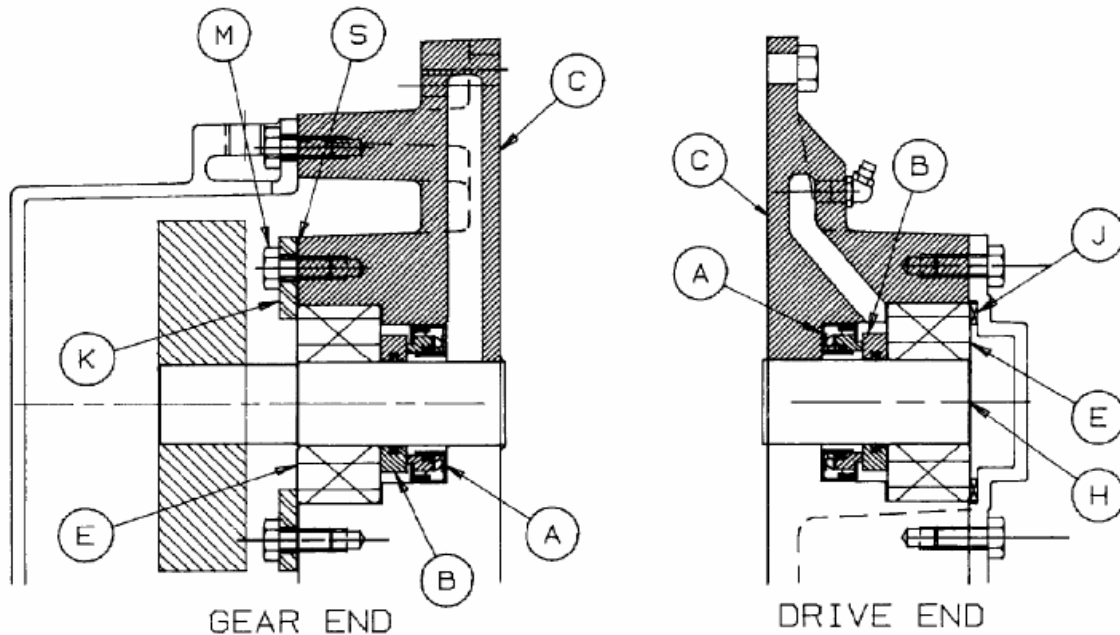

FIGURE 7-1
- B. Refer to Figure 7-1. Install mechanical seal (A) into the headplate bore (C) using a press and the correct driver shown on page 24. Drive the seal securely on to its seat.
- A. Refer to Figure 7-1, page 28. Lightly coat the impeller shaft (H) and the inside diameter of the mating ring (B) with assembly lubricant.
- B. Install the mating ring (B) on the shaft only far enough to get the bearing (E) started on the shaft.
- C. Lightly lubricate the bearing inner race (E) with a light oil or grease.
Refer to FIGURE 7-1, page 28. The gear end bearings are held in position by the force created by the wavy spring (J) on the drive end and the bearing retainer (K) on the gear end. This is referred to as the fixed end. The interference fit between the shaft (H) and the bearing inner race (E) keeps the shaft from moving axially.